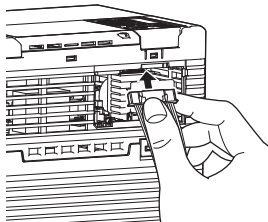

Figure 12 Plugging the Option Connection Cable into the Drive (PS-V10M)
2. Next, plug the supplied 24 V Power Supply Option connection cable into the drive cable socket and click firmly into position as shown in Figure 12.